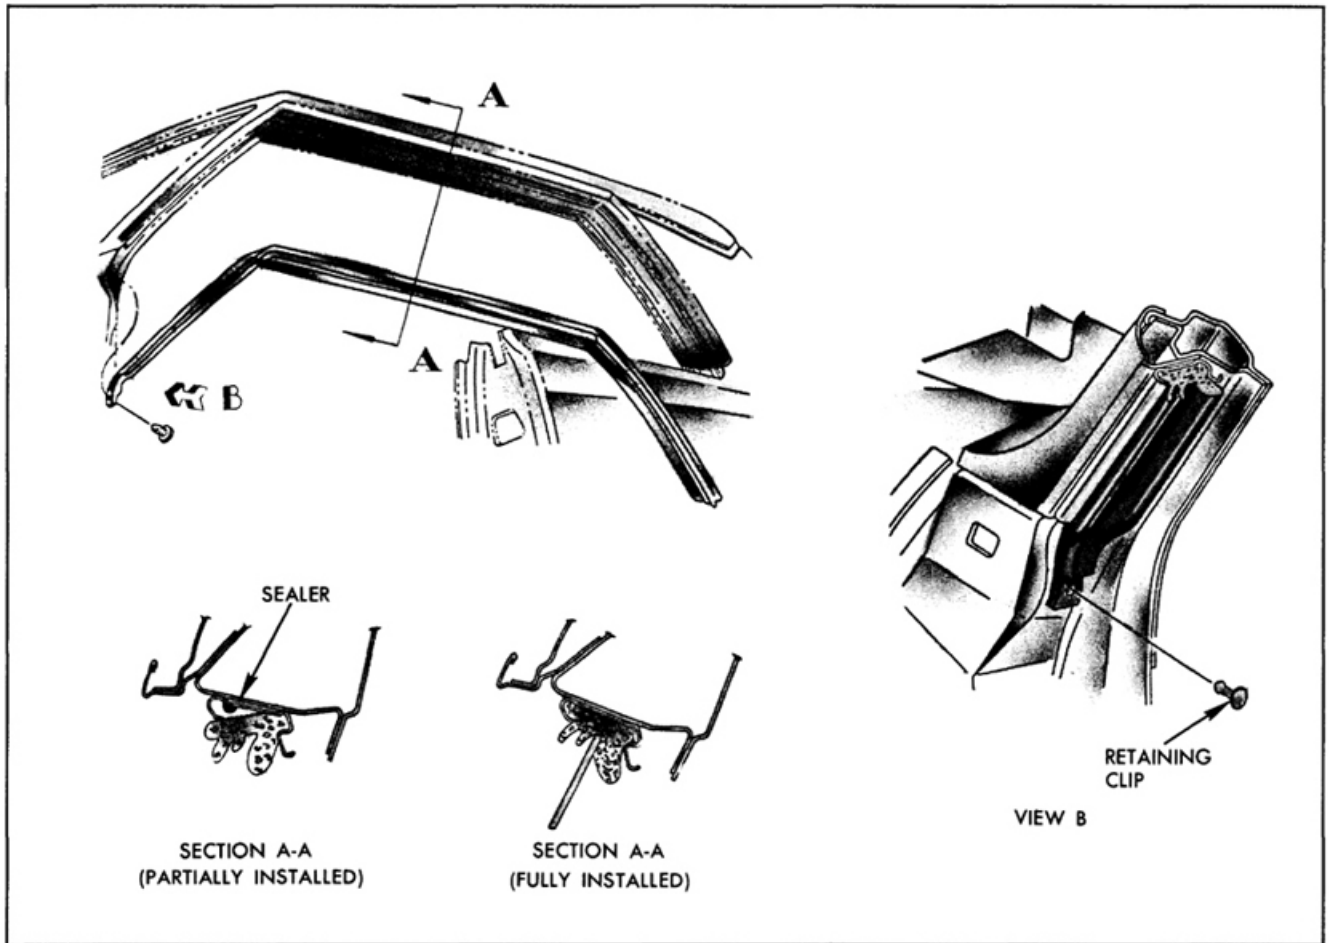

Fig. 16-356 Side Roof Rail Weatherstrip
1. Remove retaining clip securing weatherstrip at front body hinge pillar. (View "B" in Fig. 16-356)
3. Beginning at rear end of weatherstrip, carefully engage inboard edge of weatherstrip into weatherstrip retainer. Using a flat-bladed tool, install outboard edge of weatherstrip into weatherstrip retainer. Install retaining clip at front body hinge pillar. (Section A-A in Fig. 16-356)